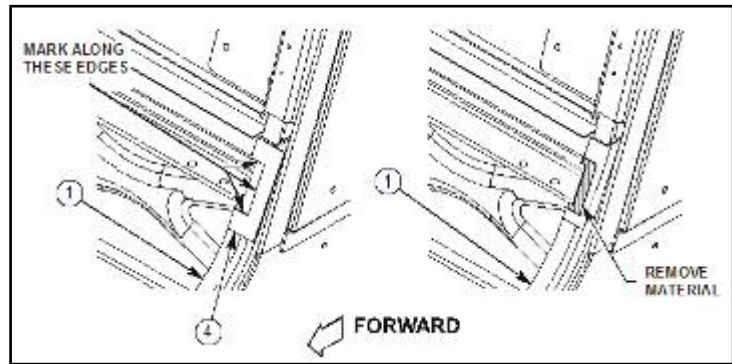

Figure 9a.
1. Place M00630BAS001-01M1 rear ramp cutout template (4) on rear door flange (1) as shown in figure 9a, and mark area to be removed. Remove template (4).
2. Remove material from rear door flange (1) as shown in figure 9a.